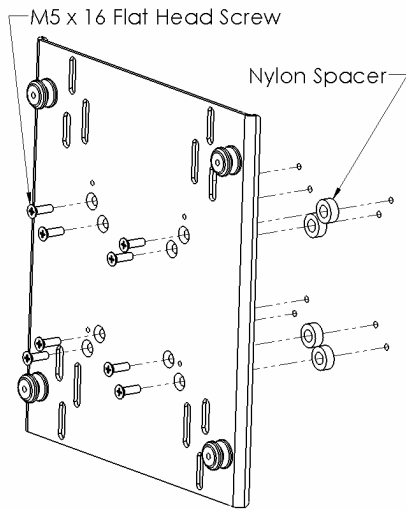
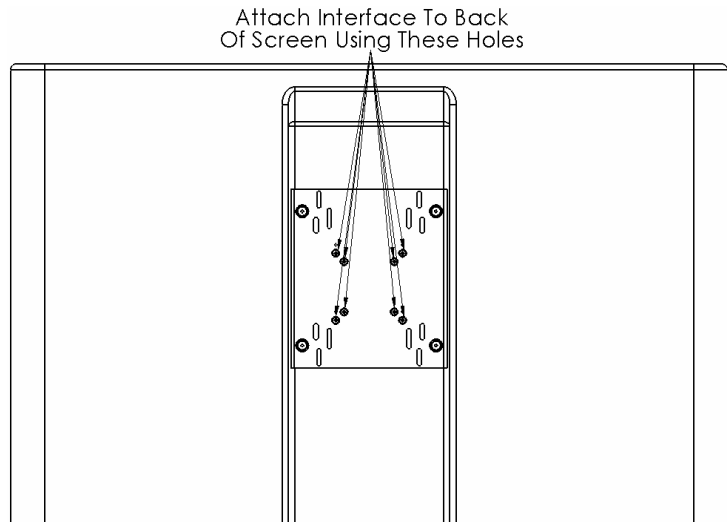

Figure 6
Figure 7
2. **Bracket Installation:** Attach bracket to back of display using the eight M5 screws and eight Nylon Spacers (see Figure 6 & Figure 7).